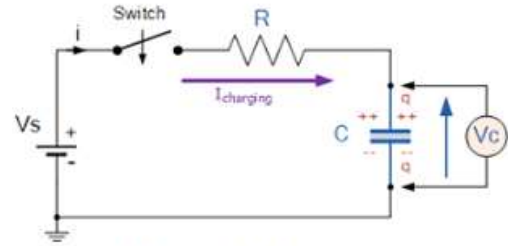

Fig. 1: Charging of the Capacitor
Applying Kirchhoff voltage law across the RC circuit (Fig.1) and solving, we get,
1. Make the connections as shown in Fig.1.